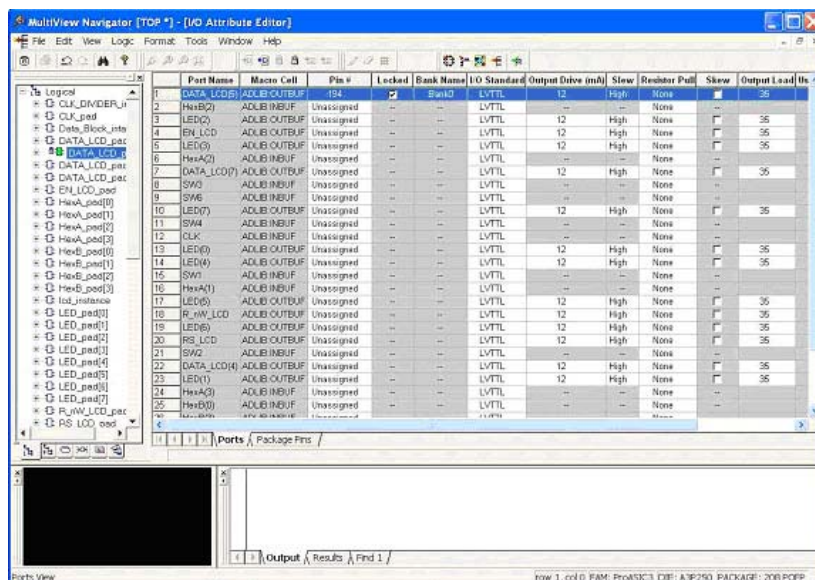

Figure 7-32 • I/O Attribute Editor in MultiView Navigator
- Once the design compiles successfully, use the **I/O Attribute Editor** tool to assign the pin for subsequent place-and-route runs. Click the **I/O Attribute Editor** to open the tool. It opens in the MultiView Navigator user interface, as in Figure 7-32.